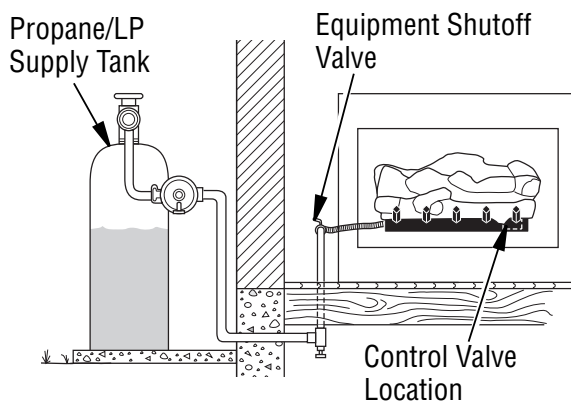

Figure 16 - Checking Gas Joints (Propane/LP Only)
3. Check all joints from gas meter to equipment shutoff valve for natural gas or propane/LP supply to equipment shutoff valve for propane/LP (see **Figure 16 or 17**). Apply noncorrosive leak detection fluid to all joints. Bubbles forming show a leak.
4. Check all joints from equipment shutoff valve to gas valve (see **Figure 16 or 17**). Apply noncorrosive leak detection fluid to all joints. Bubbles forming show a leak.